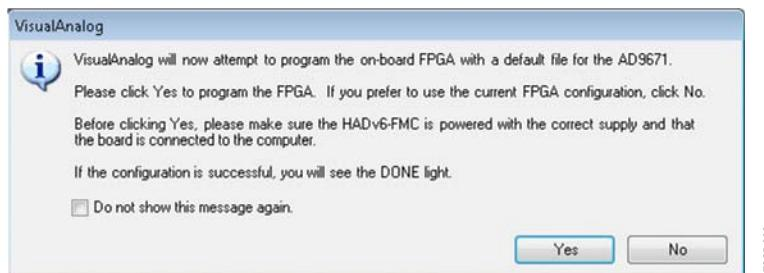

Figure 2. VisualAnalog FPGA Programming Dialog
2. Start VisualAnalog. The software attempts to program the HSC-ADC-EVALEZ data capture board with the default file associated with the detected AD9671EBZ evaluation board. After the file loads, the CONFIG\_DONE LED illuminates on the HSC-ADC-EVALEZ data capture board (see Figure 2). Click Yes.